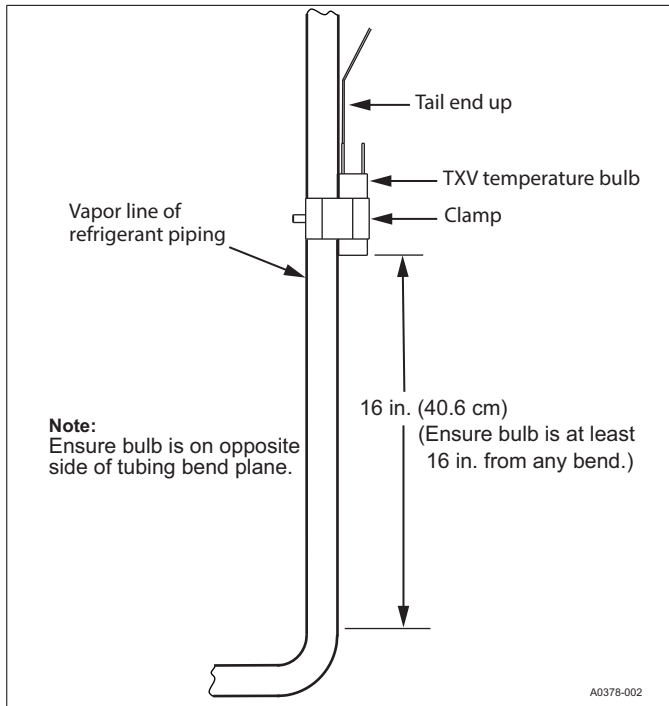

Figure 6: Vertical temperature bulb orientation
- b. If installing the bulb on a vertical run, ensure the bulb is a minimum of 8 in. (20.32 cm) away from the elbow coming out of the coil. Position the bulb with the tail of the bulb at the top, so that the bulb acts as a reservoir. See **Figure 6**.